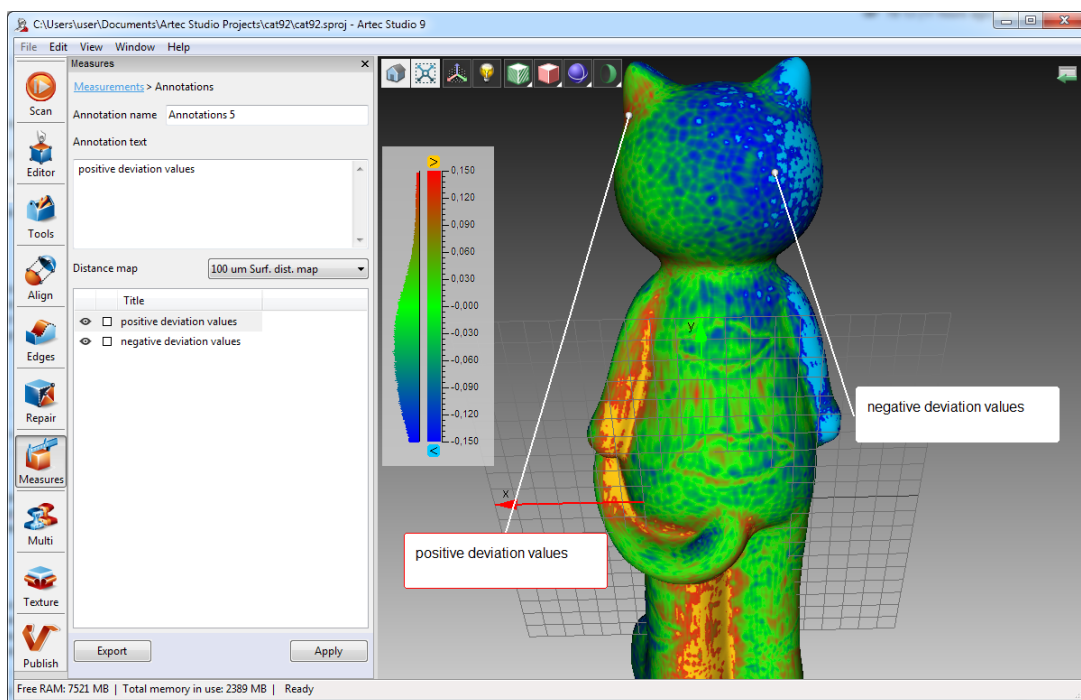

Figure 6.12: Annotation of the model layered with a surface distance map
Noteworthy elements of the surfaces or surface distance map can be marked using *Annotations* tools. The annotation may include one or several labels. Labels look like rectangular tags with connecting lines pointing to the elements on the surfaces (*figure 6.12*).
5. Repeat steps #3 and #4 to create a new label. Every new label in addition to tagging on the surface will be added to the annotation list on the left panel (figure 6.12). Labels in the list can be hidden/shown or recolored by clicking **RMB** and selecting a corresponding option in the menu. The same results can be reached by toggling Selection flag  for displaying and by pressing the square button for recoloring.
1. Select the label in *3D View* window and its border color becomes red (see selected label in the figure 6.12). Press **Del** key on the keyboard.